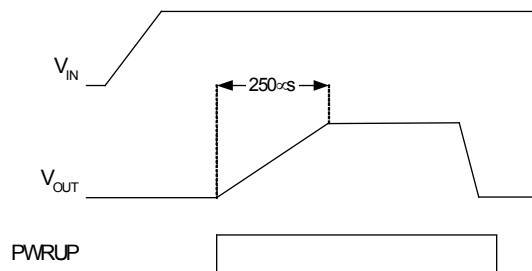

Figure 12. Soft-Start
When the FAN5617 is enabled, either by EN going high or on command from the TinyWire™ interface, the soft-start circuit linearly ramps V_{OUT} to limit the switcher's inrush current (see Figure 12). When power is first applied, the default IC brightness control register (N_{BR}) is set to maximum brightness (31). If EN is low at initial power-up, the IC remains in a low-power state until either EN goes HIGH or a non-0 brightness command is received. If EN goes from HIGH to LOW, the IC is reset to the low-power state until either a new brightness command is received or EN is driven HIGH.